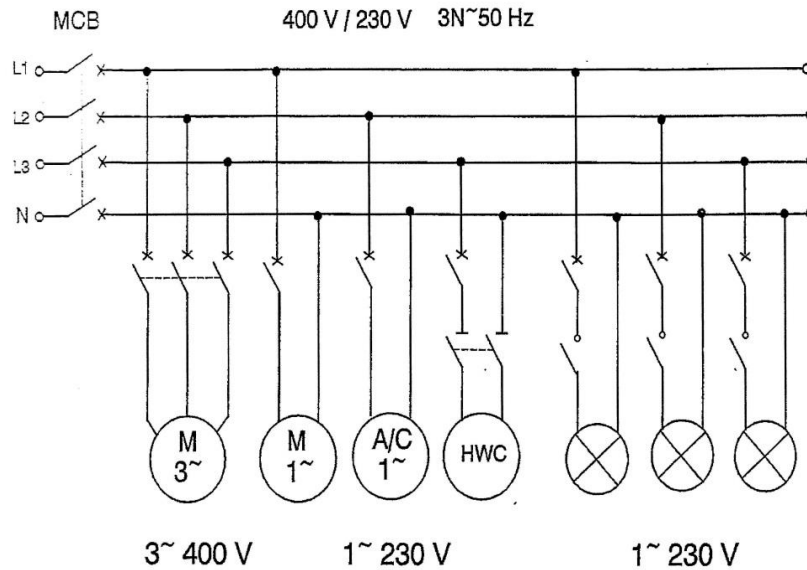

Figure 6.6 Circuit diagram for distribution board
Figure 6.6 is a multi-line circuit diagram that represents the layout of a three-phase, four wire, 400 V/230 V, 50 Hz distribution board (DB) with circuit breakers, isolator switches and electrical devices connected to it.